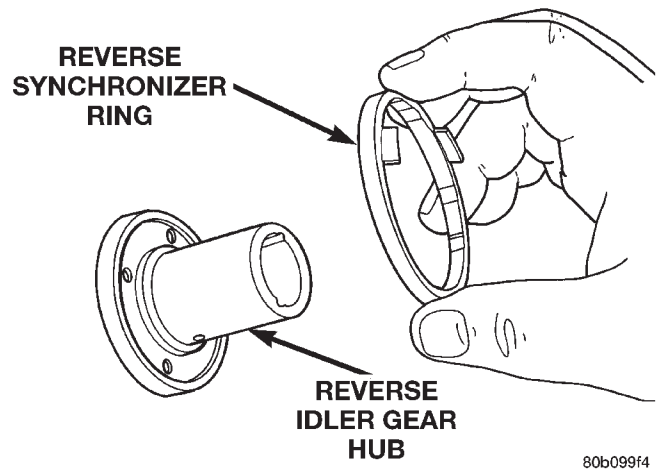

Fig. 118 Remove Reverse Idler Gear Synchronizer Ring
(4) Remove the reverse idler gear synchronizer ring from the reverse idler gear hub/race (Fig. 118).